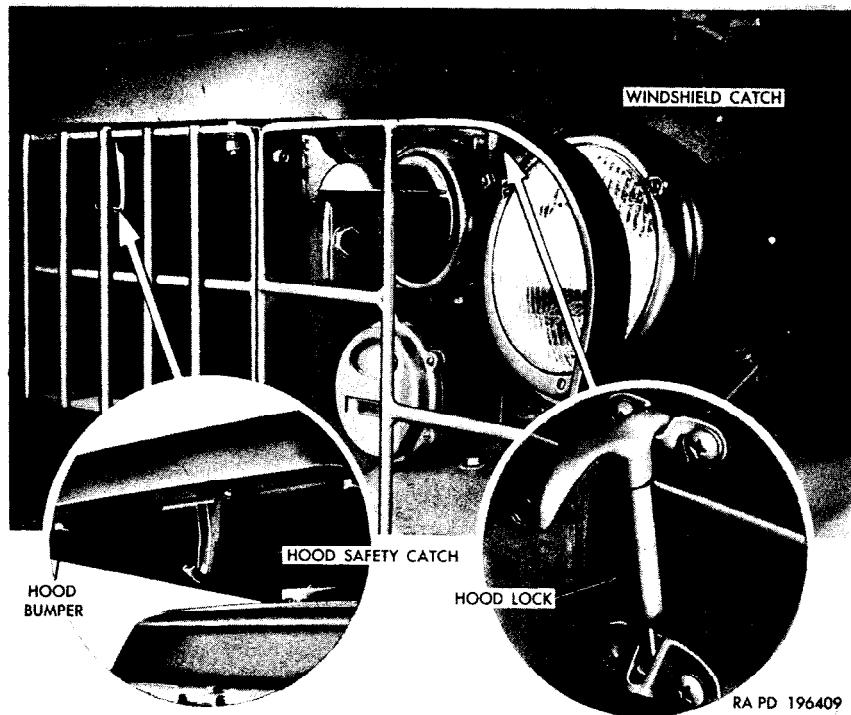

Figure 17. Hood lock and safety catch.
a. *Hood Locks.* A hood lock (fig. 17), attached to each radiator side support, secures the hood in the closed position.
d. Hood Safety Catch (fig. 17). The spring-loaded hood safety catch (on vehicles so equipped) prevents the hood from opening in the event the hood locks become disengaged. When the safety catch is held toward the radiator, the hood is released; the catch engages automatically when the hood is closed.